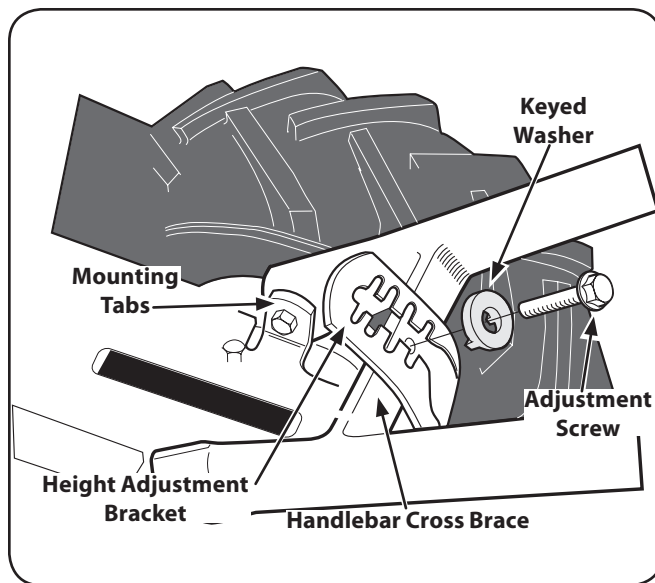
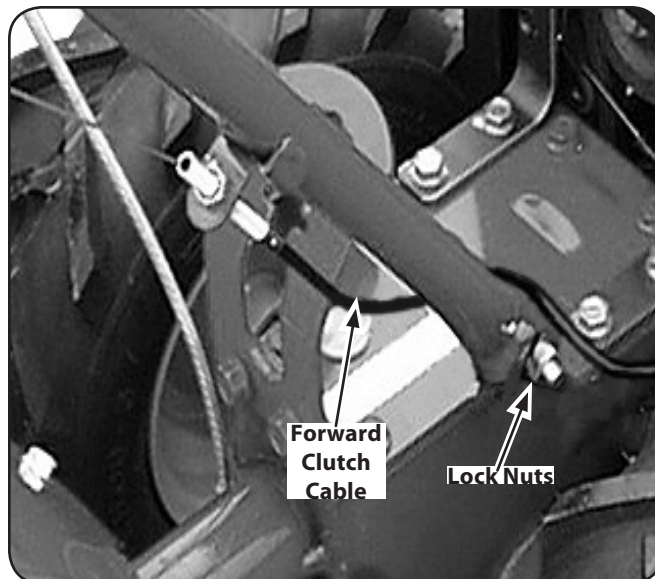

Figure 3-2
Figure 3-3
3. Gently lift the handlebar (do not overstretch the attached cable) and place the handlebar cross-brace in front of the curved height adjustment bracket. See Fig. 3-2.
4. With the forward clutch cable on the inside of the handlebar (See Fig. 3-3), position the handlebar ends on the outside of the two mounting tabs shown in Fig. 3-2 on the transmission top cover.
NOTE: The curved handlebar height adjustment bracket appears as shown in Fig. 3-2 for non-electric start tillers. For electric start machines, the bracket is loosened and moved to one side.
5. Loosely attach the handlebars to the mounting tabs with two $\frac{3}{8}$ -16 x 1" screws (heads of screws go to inside of tabs), $\frac{3}{8}$ " flat washers and $\frac{3}{8}$ "-16 lock nuts. See Fig. 3-3.
7. Move the handlebars up or down to align the threaded hole in the cross brace with one of the four slots in the curved height adjustment bracket. Place the keyed washer on the flange head height adjustment screw with the raised edges of the washer facing down. See Fig. 3-2.